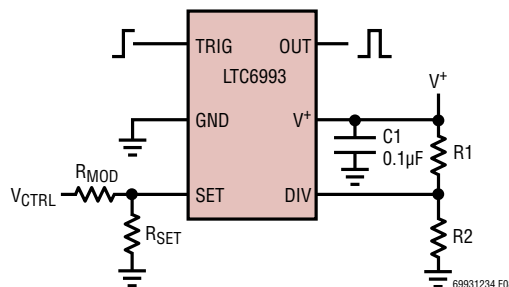
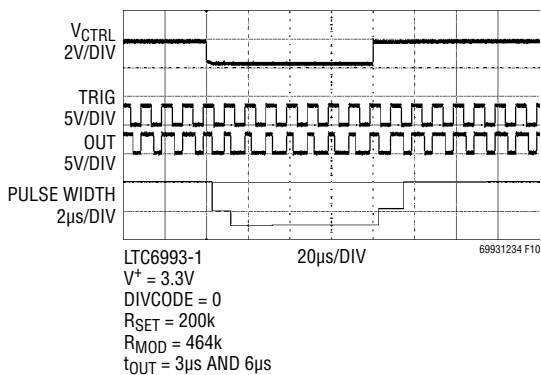

Figure 8. Voltage-Controlled Pulse Width
Figure 10. Typical Settling Time
With one additional resistor, the LTC6993 output pulse width can be manipulated by an external voltage. As shown in Figure 8, voltage V_{CTRL} sources/sinks a current through R_{MOD} to vary the I_{SET} current, which in turn modulates the pulse width as described in Equation (3).
Following a 2× or 0.5× step change in I_{SET}, the output pulse width takes approximately six master clock cycles (6 • t_{MASTER}) to settle to within 1% of the final value. An example is shown in Figure 10, using the circuit in Figure 8.